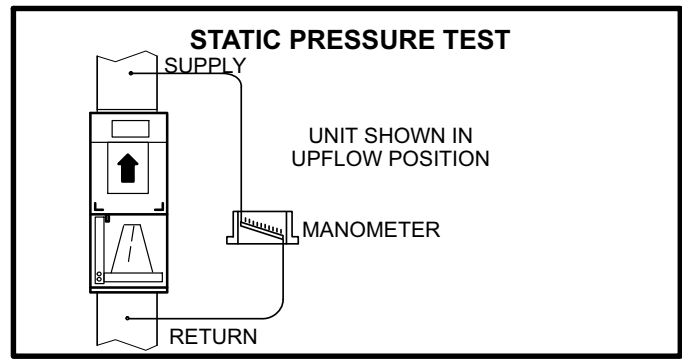

FIGURE 22
- 1- Measure tap locations as shown in figure 22.